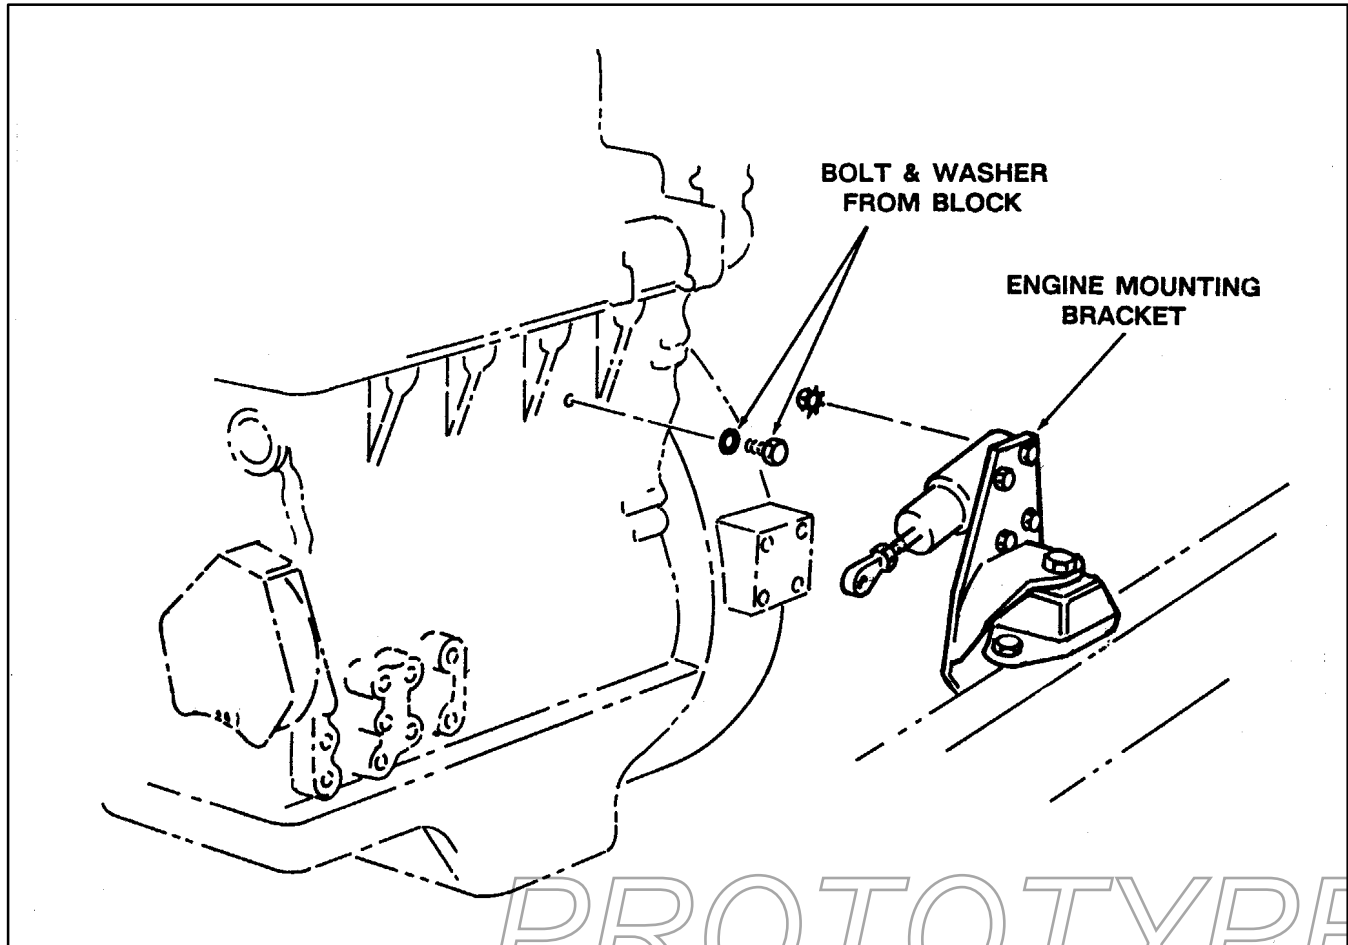

Figure 2
11. Drain coolant from engine block. Remove bolt and washer from left side of engine block (Fig. 2). Install temperature switch to engine block with bolt and washer previously removed. Replenish engine coolant. Check for leaks.
13. Remove (1) of the capscrews and lockwashers securing solenoid to left rear engine mounting bracket (Fig. 2). Mount ground wire from temperature switch to bracket with capscrew and lockwasher removed.